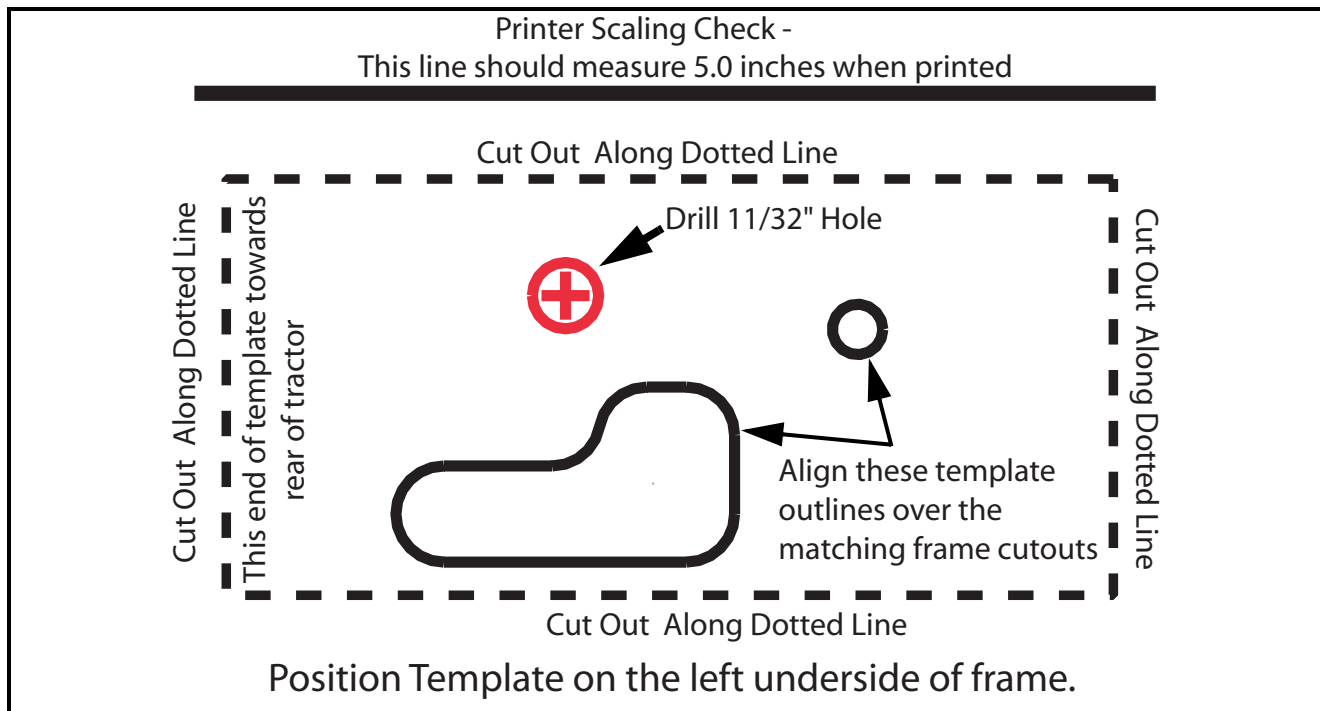

FIGURE 4
17. Cut out the template in Figure 4.